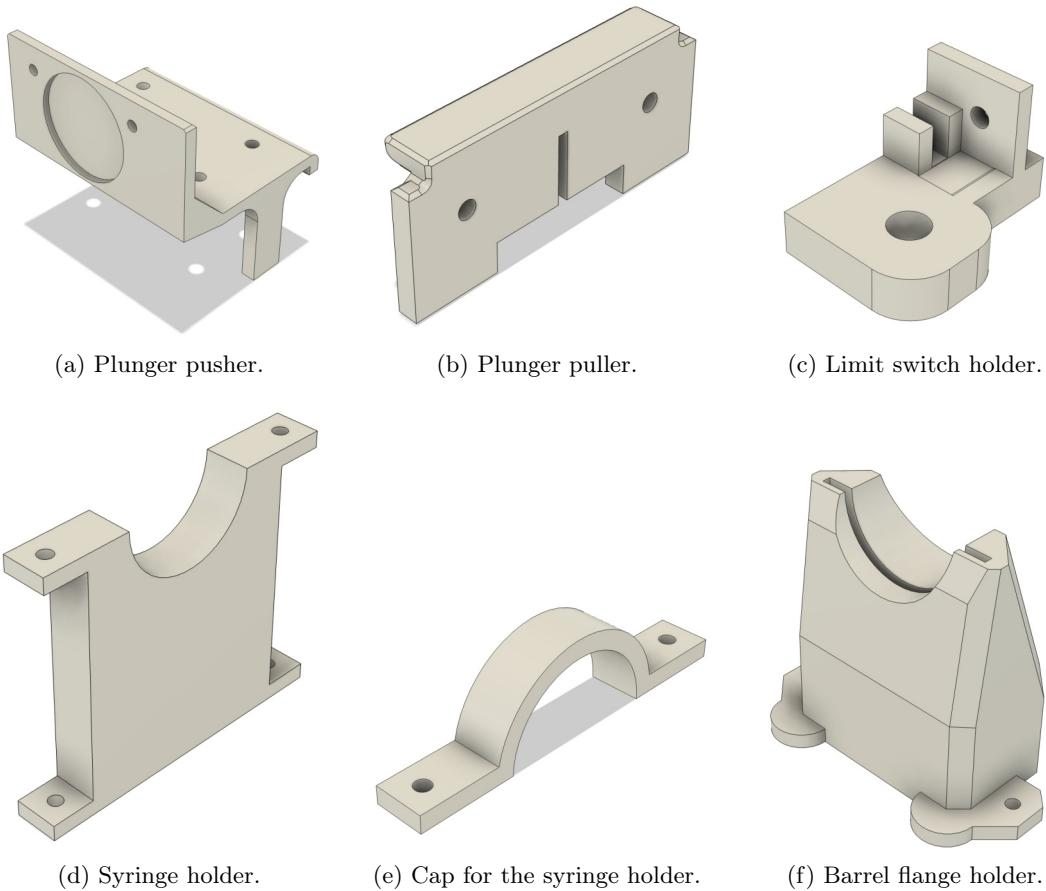

Figure 2.3: 3D printed parts modeled in Fusion360 and printed with PLA, 20% infill.
- a. **Print syringe holders:** 3D print the following parts shown in Fig. 2.3:
- c. **Print and install plunger pusher and puller:** 3D print the following parts shown in Fig. 2.3:
- d. **Print and install limit switch holders:** 3D print the models (Fig. 2.3, c):